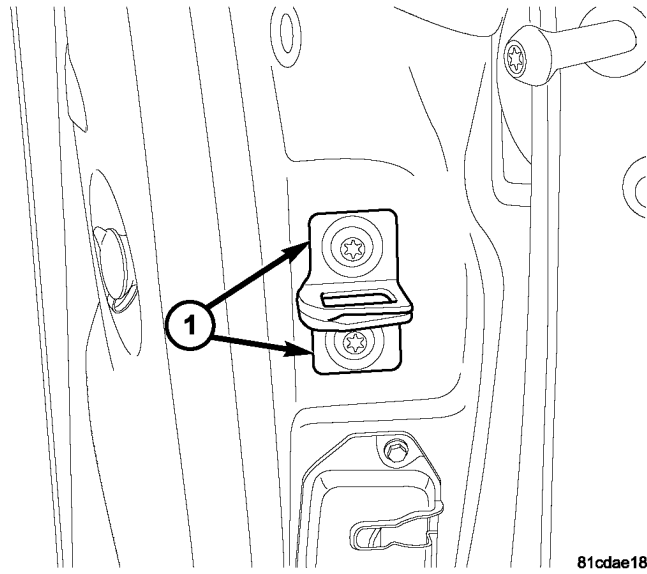
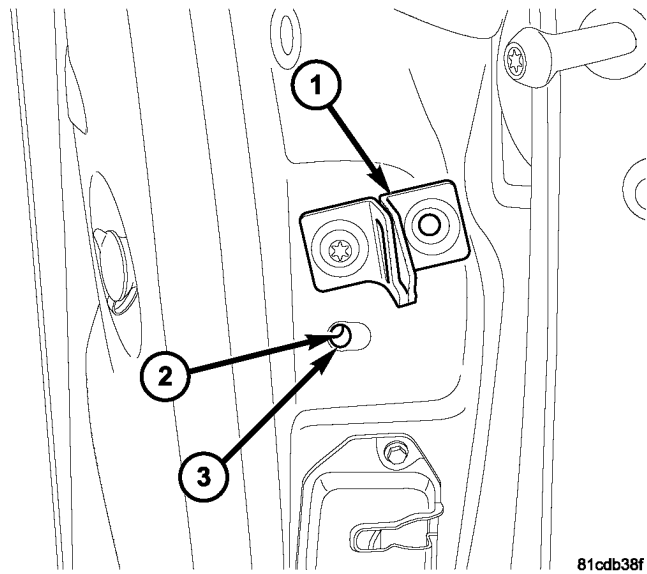

Fig. 2 STRIKER, MARKED AROUND OUTSIDE
Fig. 3 STRIKER ROTATED
4. This is a preliminary adjustment of the striker. This preliminary adjustment should be performed if the striker is influencing the door position. Final adjustment will be made later in the Repair Procedure. Mark current location of striker perimeter, (Fig. 2), then loosen both bolts of striker assembly, remove only 1 bolt at a time, (so that inner threaded plate will not fall between inner and outer panels). Rotate striker out of the way, (then snug remaining bolt). The plate with the nuts attached inside the post have ample room to grind or file without rotating plate out of the way. Elongate the hole(s) by grinding or filing the sheet metal and painting the raw edge to prevent rusting. Repeat this procedure for the other striker mounting bolt hole as required. Install striker to desired position and recheck flushness, (Fig. 3). Rear of the sliding door should be flush to 1.5 mm, (.060 in) outboard of rear quarter panel sheet metal.
33. Remark current location of striker perimeter, (Fig. 2) above, then loosen both bolts of striker assembly, remove only 1 bolt at a time, (so that inner threaded plate will not fall between inner and outer panels). Rotate striker plate out of the way, (then snug remaining bolt). Elongate the hole(s) by grinding or filing the sheet metal and painting the raw edge to prevent rusting. The plate with the nuts attached inside the post have ample room to grind or file without rotating plate out of the way. Repeat this procedure for the other striker mounting bolt hole as required. Install striker to desired position and recheck flushness, (Fig. 3) above. Back of sliding door should be flush to 1.5 mm, (.060 in) outboard of rear quarter panel sheet metal.